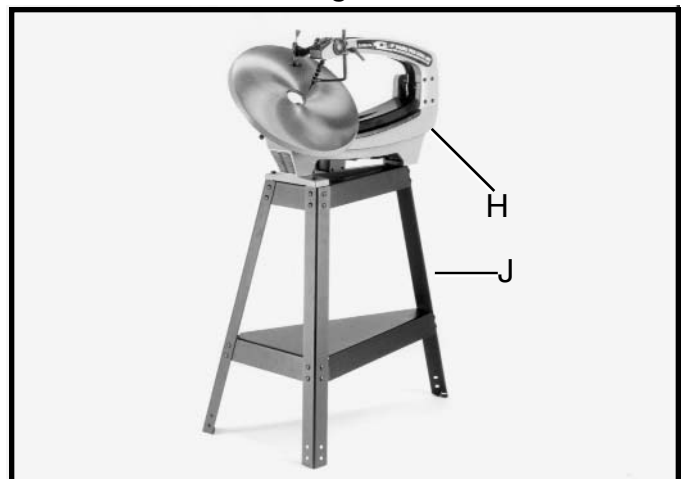

Fig. 8
3. Figure 8 illustrates the saw (H) fastened to the stand (J). Place the stand on a level surface and securely tighten all stand mounting hardware.